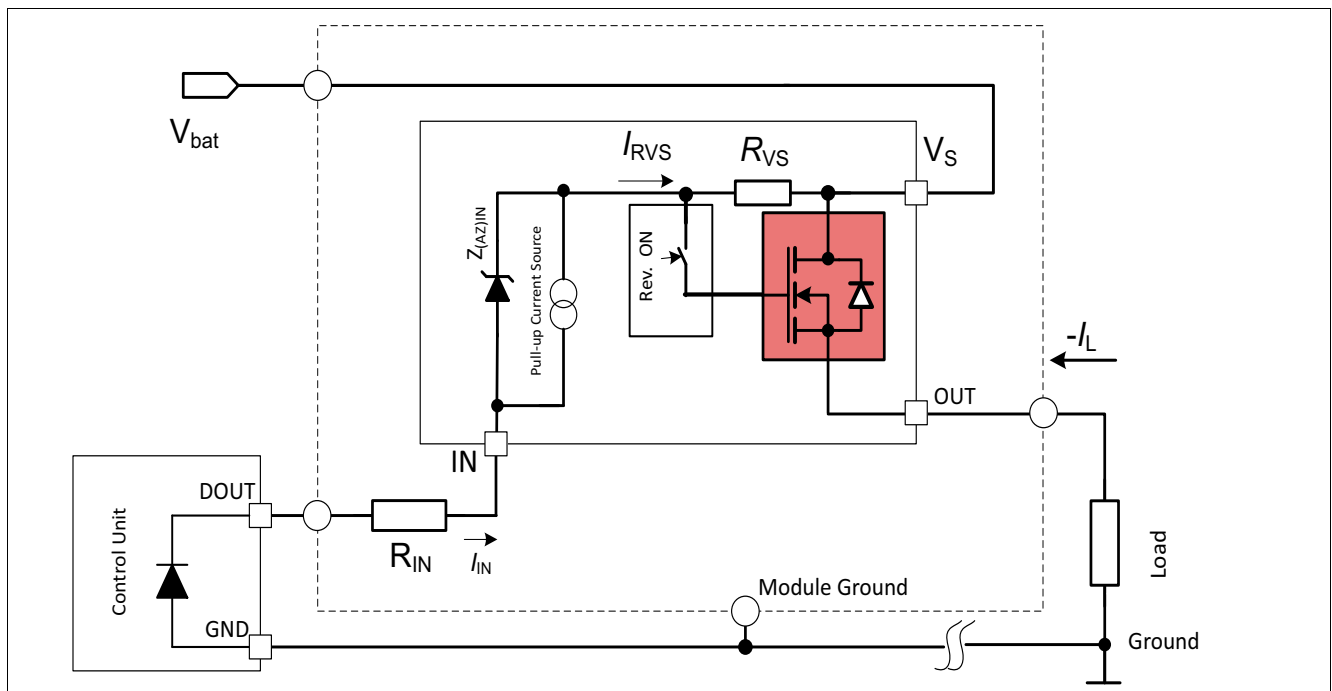

Figure 17 BTC50010-1TAA Reverse Polarity Protection with External Components
Additionally, the current into the logic has to be limited. The device includes a R_{VS} resistor which limits the current in the diodes. To avoid over current in the R_{VS} resistor, it is nevertheless recommended to use a R_{IN} resistor. Please refer to maximum current described in **Table 4**. **Figure 17** shows a typical application. The recommended typical values for R_{IN} is 100Ω.
*Note: The R_{VS} has a typical value of 80Ω at 25°C. Refer to **Figure 17**, the R_{VS} and R_{IN} build up a voltage divider to split up the supply voltage on BTC50010-1TAA, which protect the device during high voltage pulse (e.g. ISO pulse 3b).*